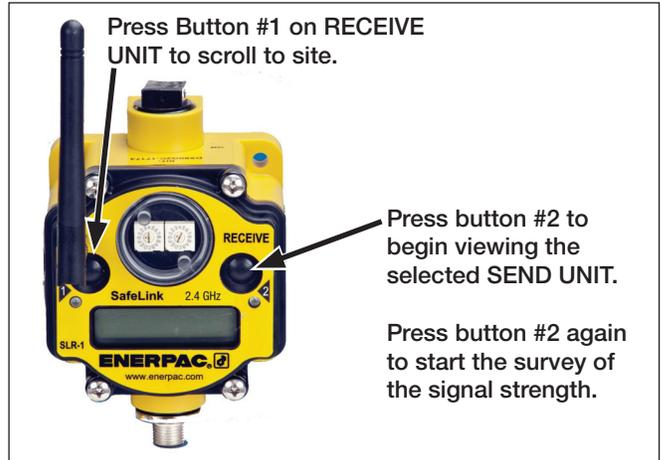

Figure 15, Checking Signal Strength - SLR Receive Unit
3. Press button #2 to start SLR viewing mode. “NOD x” will appear on the display (x = ID number of the SLS send unit to be viewed by the SLR-1 receive unit). See Figure 15.